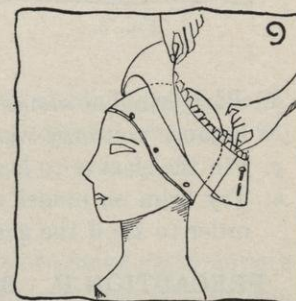

FIG. 9.
d. Slip brim, which is already pinned at the seam, over the crown (see Figure 9). You may have to slash it a little more at the headsize.